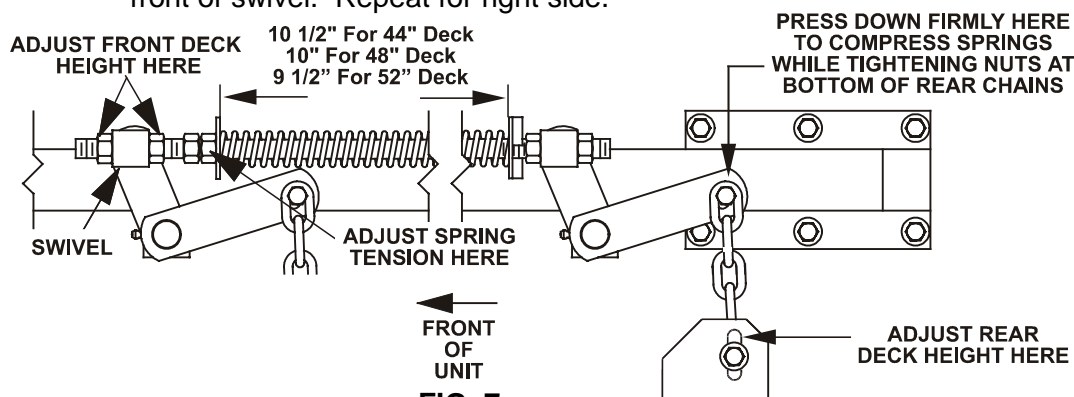

FIG. 7
- Check tire pressure of all four (4) tires. If needed, adjust to 13 psi (90 kPa).
- e) Raise the deck to the 4.5" height position and take as much force as possible off of the two large deck lift springs by loosening the nuts at the front of each spring. See Fig. 7.
- g) Loosen the two (2) bottom chain bolts in slots at the rear of the cutting deck. Loosen four (4) nuts which secure front swivels (two per side), until front chains are loose and front of deck is supported by the 1-1/8" block. Do not loosen front chain hardware.
- h) When hardware is loosened, remaining tension in the large support springs will tend to rotate the deck lift handle up, out of the 1 1/2" position. Press down on the rear deck support arm (as shown in Fig. 7) to firmly return the deck lift handle to the 1 1/2" position. **DO NOT** push on deck lift handle. While continuing to press down, take the slack out of the rear chains and tighten hardware at the bottom of the rear chains. Downward pressure may now be released.
- k) Raise deck lift lever to the 4.5" cutting height position (also transport position, See Fig 5). Adjust spring compression until proper distance is obtained between the two washers (See Fig 7) by turning the nut at the front of each spring. Lock nuts in position with jam nuts.